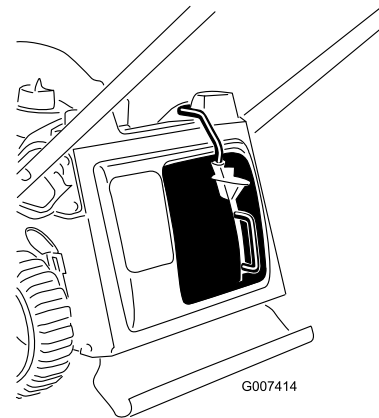

Figure 10
3. Release the button on the lever and ensure that the top of the lever is fully in the switch channel (Figure 10). **If the top of the lever is not in the switch channel, your mower will not start!**